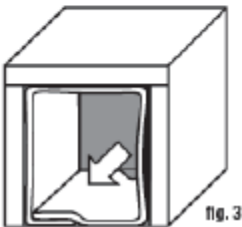

fig. 3
- Install the Thinsulate™ Acoustic Insulation (Figure 3).